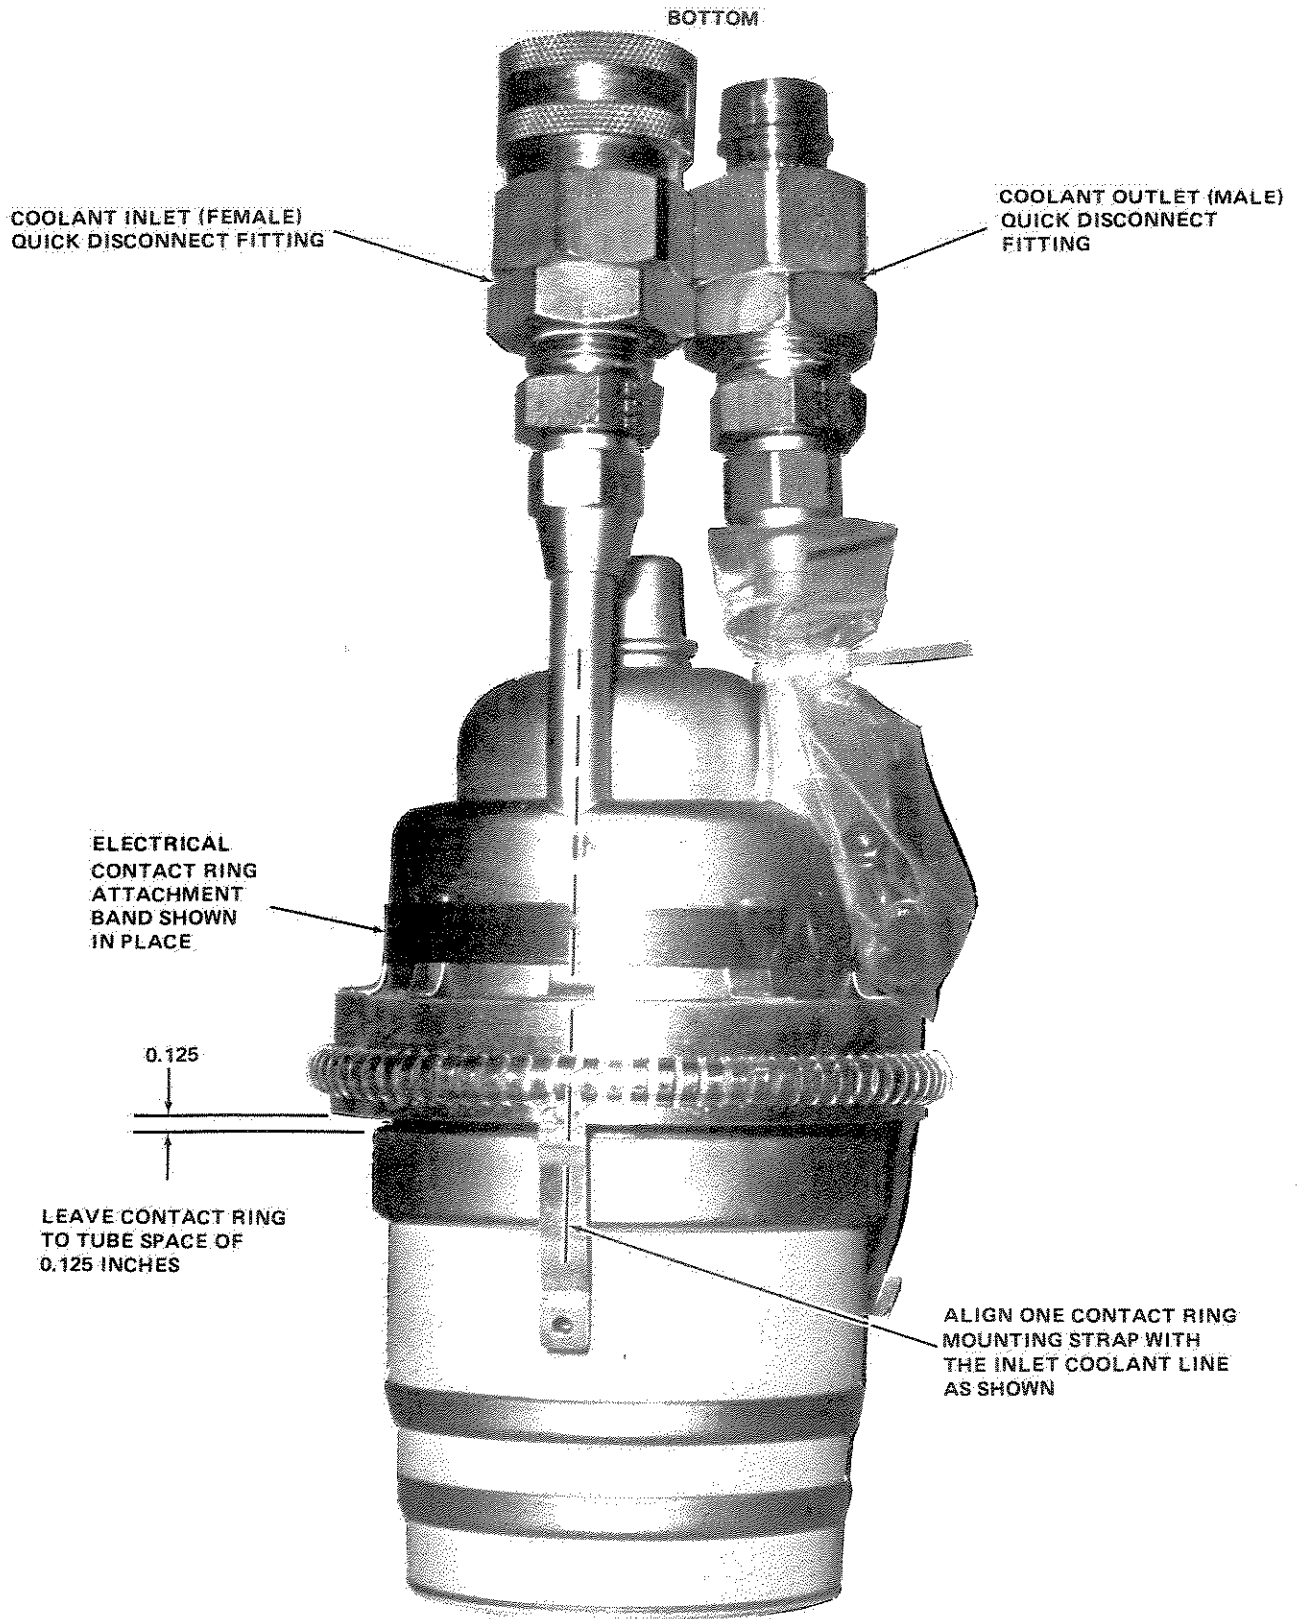

Figure 6-75. IPA Tube Configuration
3. If new tube is being installed, install quick disconnect fittings on tube. Install contact ring on tube. Verify orientation and dimensions of ring are in proper relation to tube cooling water input and output lines, as shown in Figure 6-75.